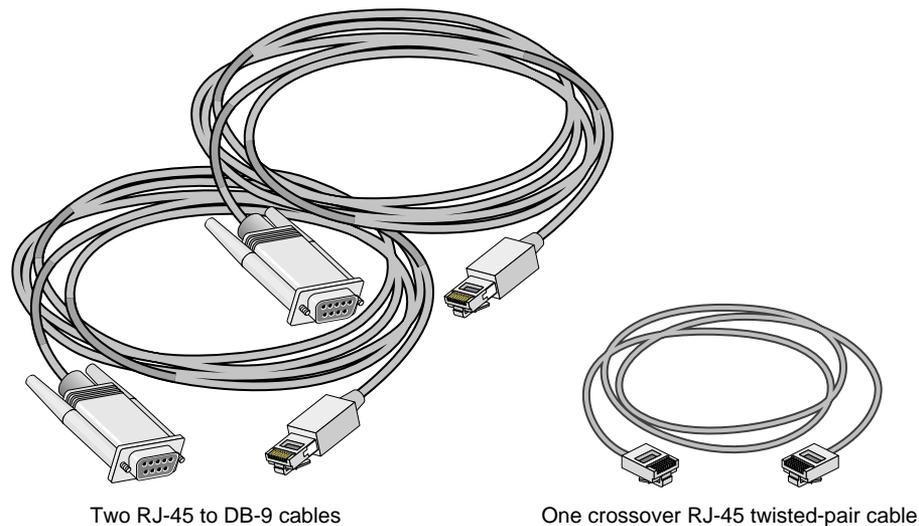

Figure 2-37 Items Needed to Connect SGIconsole to a Silicon Graphics Onyx2 Deskside Workstation
3. Make sure that you have the following items (see Figure 2-37):